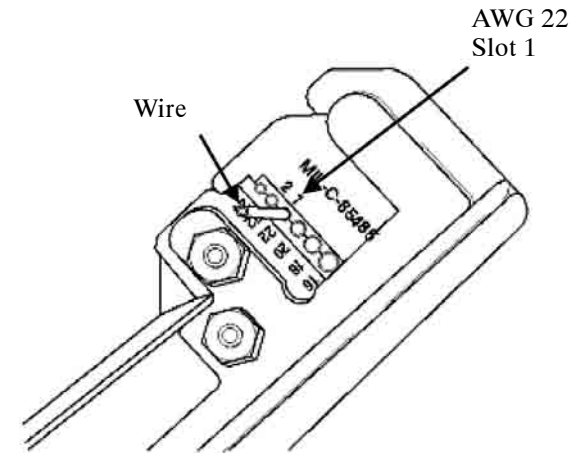

Figure 6. Step Stripping Outer Layer and Absorptive Filter Layer AWG 22
- (1) Select the proper wire stripper from Table 1.
- (2) Using the 22 AWG hole with the "1", remove the primary jacket and absorptive compound layer of the Filter Line Wire (Figure 6).